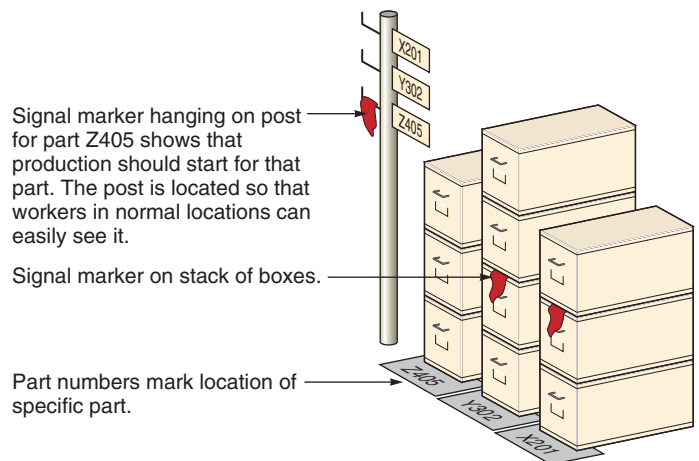

Figure 16.8
The system has been modified in many facilities so that even though it is called a *kanban*, the card itself does not exist. In some cases, an empty position on the floor is sufficient indication that the next container is needed. In other cases, some sort of signal, such as a flag or rag (Figure 16.8), alerts that it is time for the next container.
1. The user removes a standard-size container of parts from a small storage area, as shown in Figure 16.8.